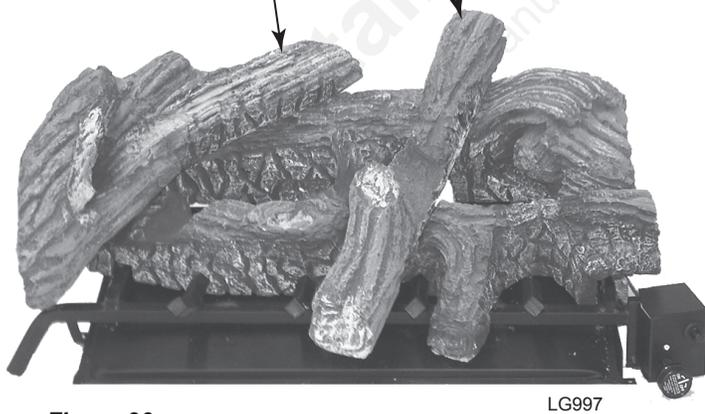

Figure 36
3. Place left top log (#3) on left end of bottom front and back logs. *Figure 36*
4. Place center crossover log (#4) across middle of bottom front and back logs. *Figure 36*